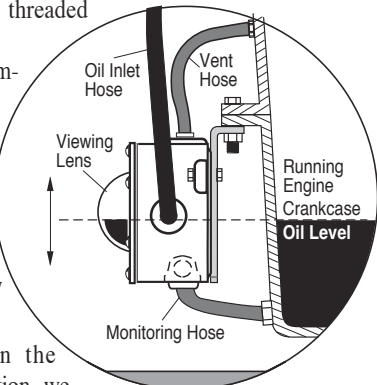

Figure 4
2. Attach the 1 inch (25 mm) diameter, flexible monitoring hose to the crankcase and the monitoring port on the LM2000. See Figure 4. **CAUTION:** The hose must slope slightly downward from the LM2000 and **MUST NOT** have any droops or low spots.
3. Install the 1/2 inch (13 mm) I.D. x 3 ft. (914 mm) hose to the vent connection on the LM2000 and to the vent connection on the crankcase. See Figure 4. **The vent connection on the crankcase must be well above the regulated oil level.** All hoses must be clear of obstructions, valleys, or dips that could create liquid traps, or gas/air pockets. The vent and crankcase connections should be as straight as possible.
4. Fill the crankcase to the proper oil level. With the engine running and warm, loosen the mounting bracket adjustment bolts and adjust the LM2000 so that the oil level in the sight gauge is aligned with the white “index line” on the dial (Figure 4). Tighten the adjustment bolts securely.